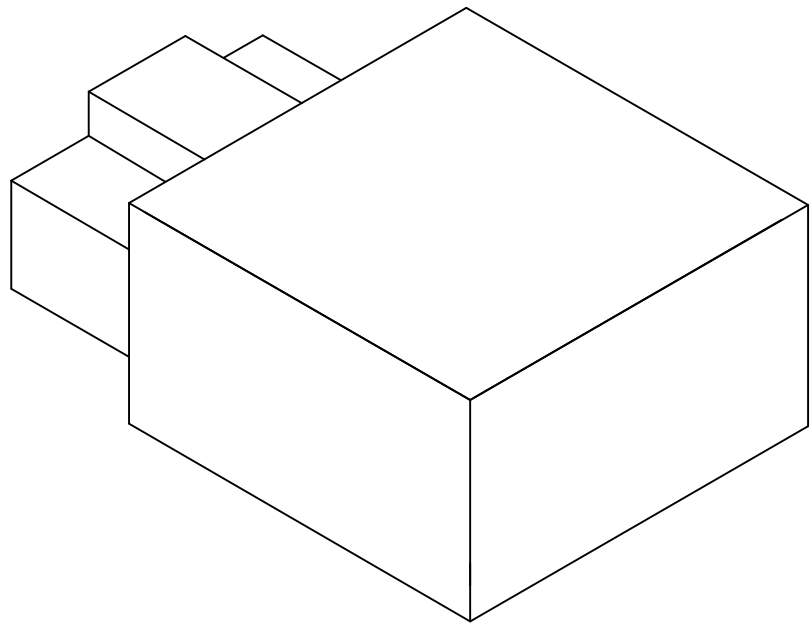

FIG. 3-16 SECURE MEMORY MODULE
- Step 1. Make sure that the module has the notch facing up. (See Fig. 3-16)